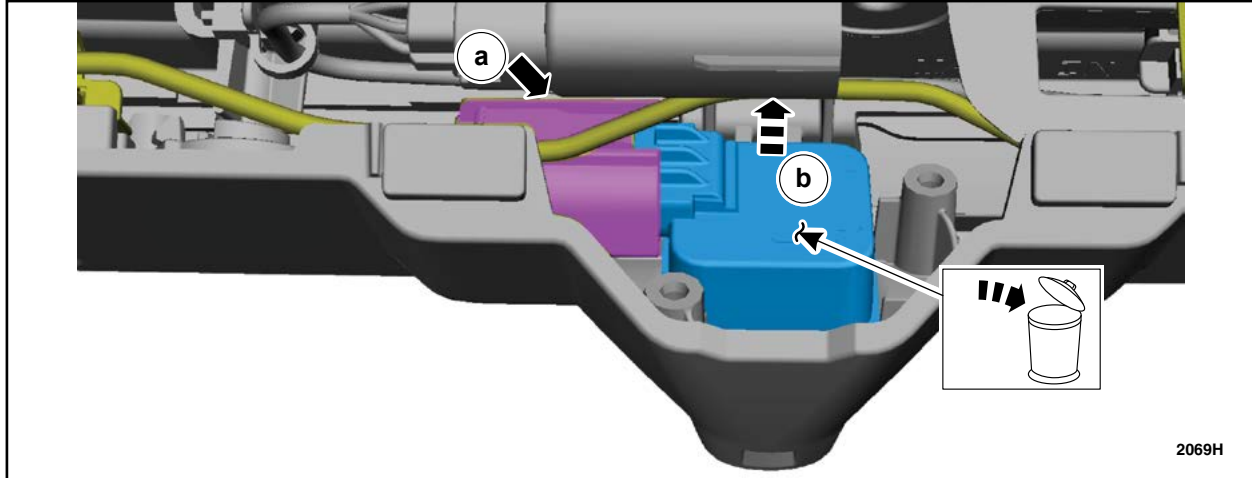

FIGURE 12
See Figure 12.
8. Install the *new* rear parking aid camera by reversing Step 7. See Figure 12.